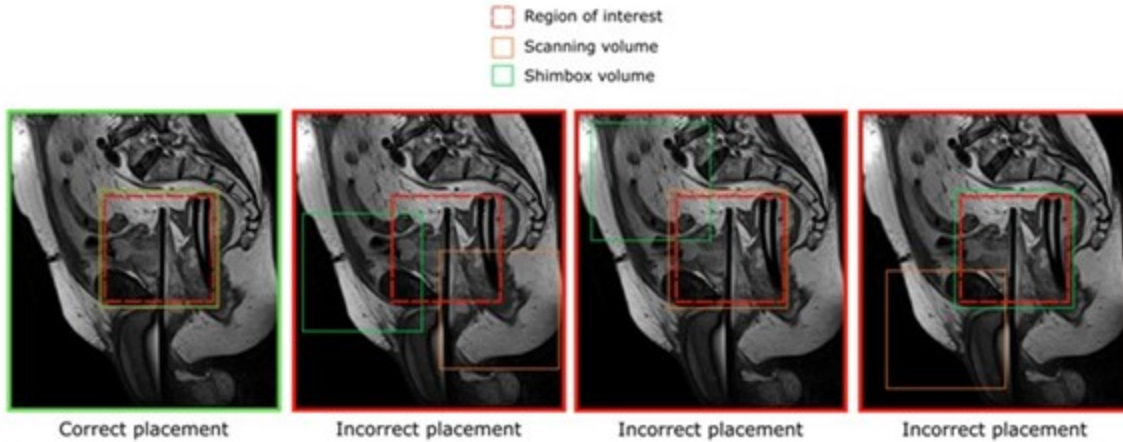

Figure 34: Examples of correct and incorrect placements of the shim box
1. **MRI Technologist:** Open AX THERM for editing in the Offc/Ang tab, change the AP, RL, and FH values for both Stack Offc. and Ang (*Figure 35*). to match those in TDC. Do the same for the shim volume. If the shim volume includes more than just the patient anatomy (e.g. air), reduce the size of the shim box (*Figure 34*).